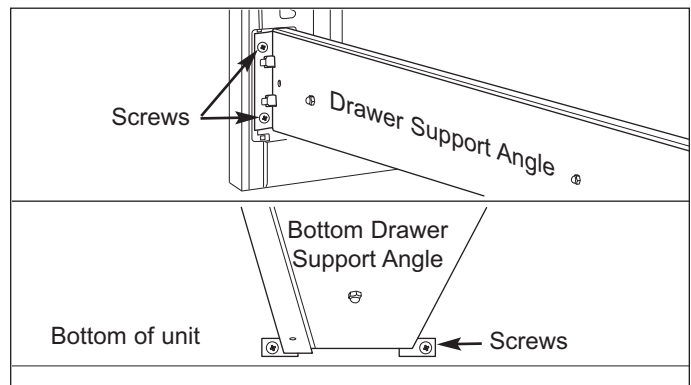

Figure 4-11. Drawer Support Screw Removal
8. Extract six mounting screws from all three drawer support angles as shown in Figure 4-11.